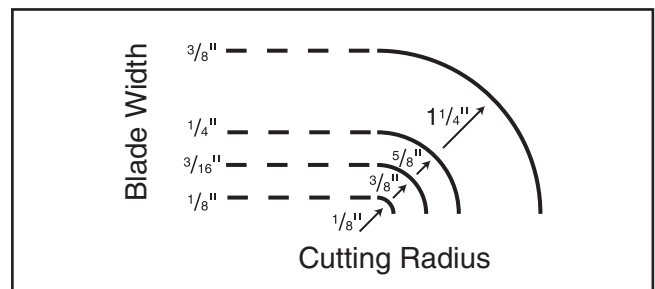

Figure 42. Recommended cutting radius per blade width.
- **Curve Cutting:** Use the chart in **Figure 42** to determine the correct blade for curve cutting. Determine the smallest radius curve that will be cut on your workpiece and use the corresponding blade width.